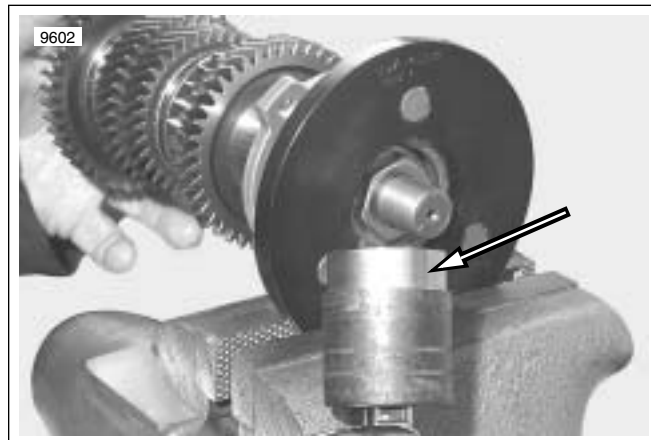

Figure 7-5. Modify Socket for Output Nut Removal
2. See Figure 7-5. Place output shaft in FINAL DRIVE SPROCKET FLANGE LOCKING TOOL (HD-45331-A) to remove the output shaft nut, use a 30 mm socket cut down to 39.6 mm (1.56 in.) to clear the flange.